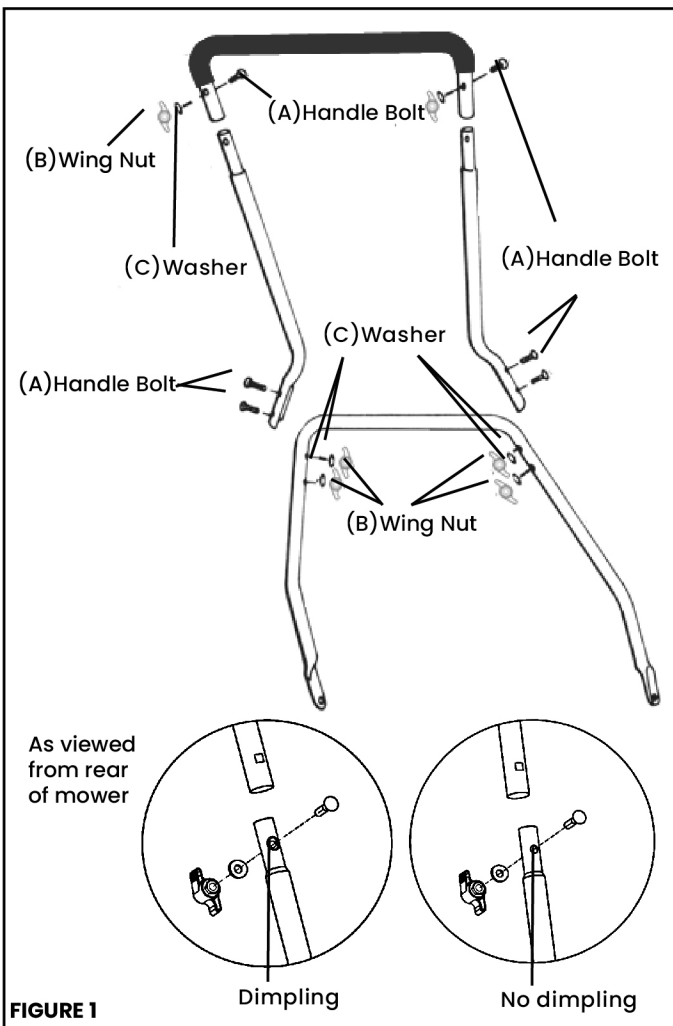

FIGURE 1
1. **Insert** the two (2) center handle pieces into the left and right side of the top handle piece. The center handles are interchangeable. The dimpling around the hole does not indicate on which side the tube is to be placed. Secure the center handles to the top handle using the two (2) M6X35 bolts and wingnuts provided. It is recommended that the bolts are inserted from the front to the rear with the wingnuts to the rear of the handle. **(FIGURE 1)**
2. **Fasten** the upper handle subassembly that you assembled in the preceding step to the lower handle subassembly using the four (4) remaining M6X35 bolts and wing nuts provided.